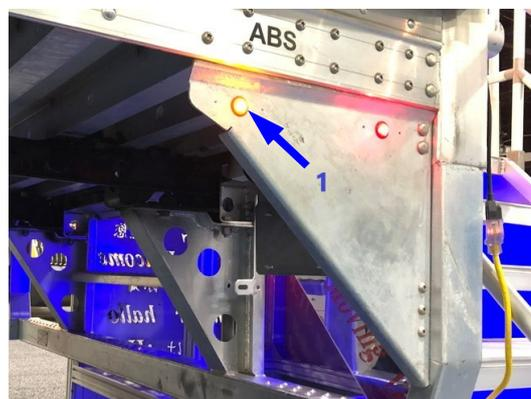

Figure 3-7 - ABS Light
- Check that ABS light (1) on street side rear corner of the trailer is not illuminated. If lamp is illuminated, see the axle and brake manufacturers' manual. See figure 3-7.